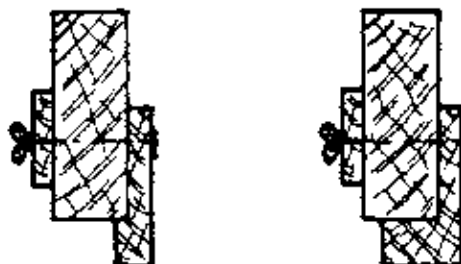

Fig. 2
One wooden piece is fixed on the sole of the plane (B) at the standard width for rebates and another piece is fixed on the side of the plane (A) and can be moved up or down to adjust the depth of the rebate. The width can also be adjusted, by using a wider or narrower wood guide (Fig. 2).